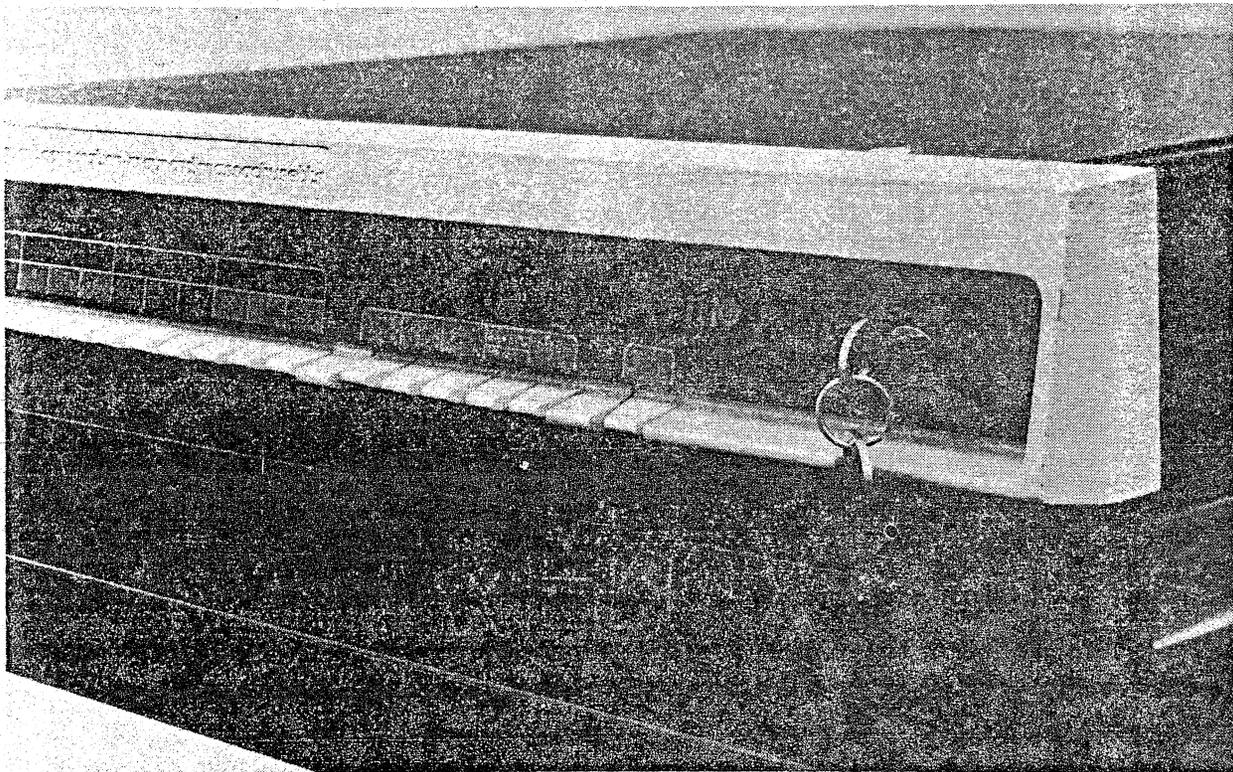

Figure 2-3
- There are a number of switches on the front of the computer (see Figure 2-3). Make sure that the power key is on and not in LOCK position. Press the HALT switch downward and then upward into the ENABLE position. (This cancels previous programming action and prepares the console for further work).